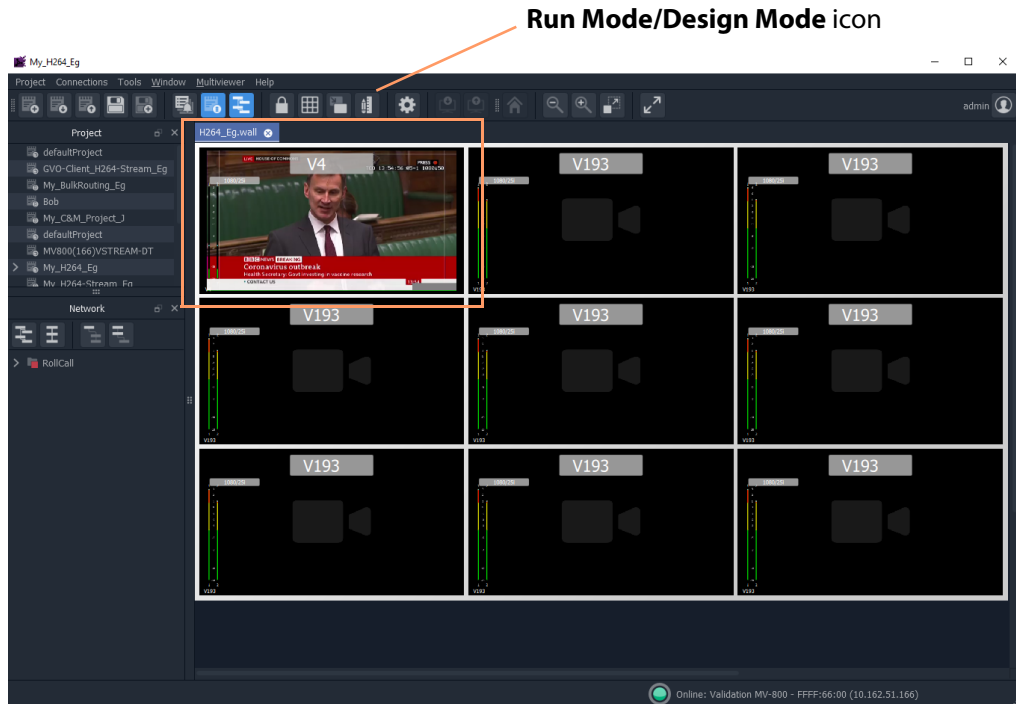

Fig. 4-21: Wall Running and Showing a New Video Stream
- 23 Click the **Run Mode/Design Mode** icon to start running the wall. The newly-selected video is now shown on the screen. See Figure 4-21.